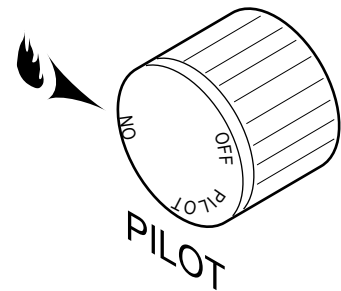

Figure 53 - On Position
Depress and turn the knob counterclockwise  to the “ON” position. *Figure 53*. It will take less than four (4) seconds for the burner to ignite.